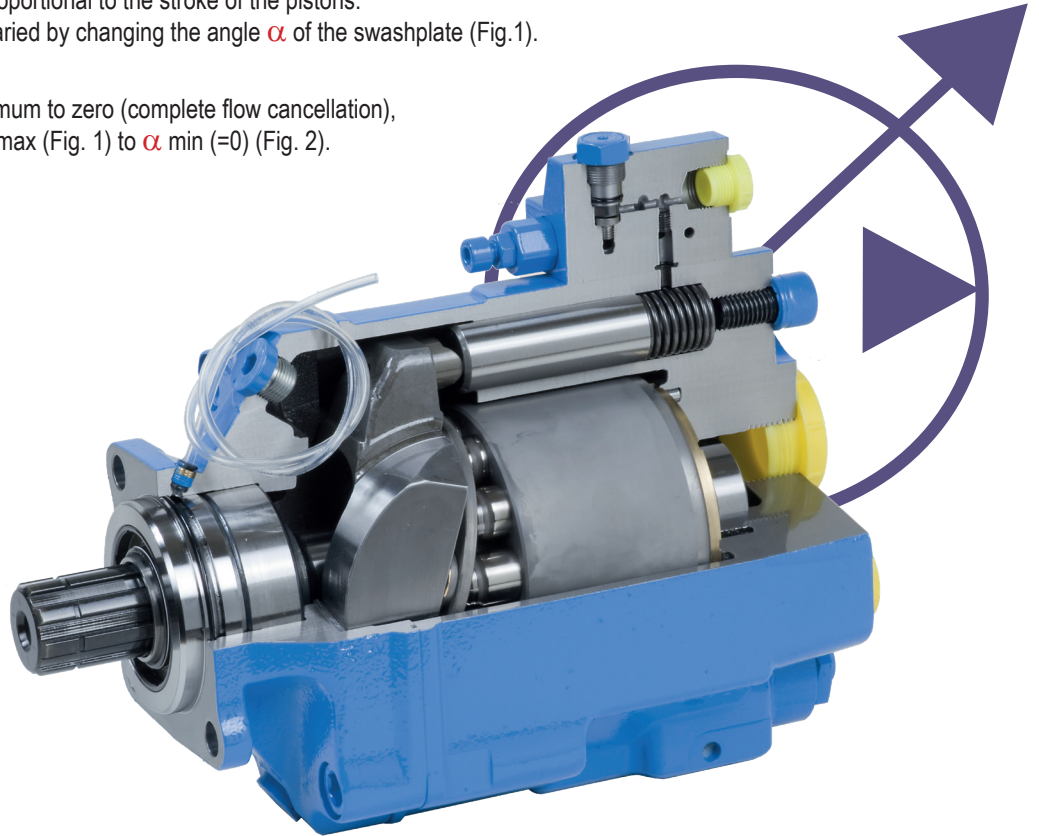

Figure 1 - Maximum displacement
- ▶ The displacement of the pump is proportional to the stroke of the pistons. Displacement – and thus flow - is varied by changing the angle α of the swashplate (Fig.1).
- ▶ To change displacement from maximum to zero (complete flow cancellation), the swashplate angle goes from α max (Fig. 1) to α min (=0) (Fig. 2).